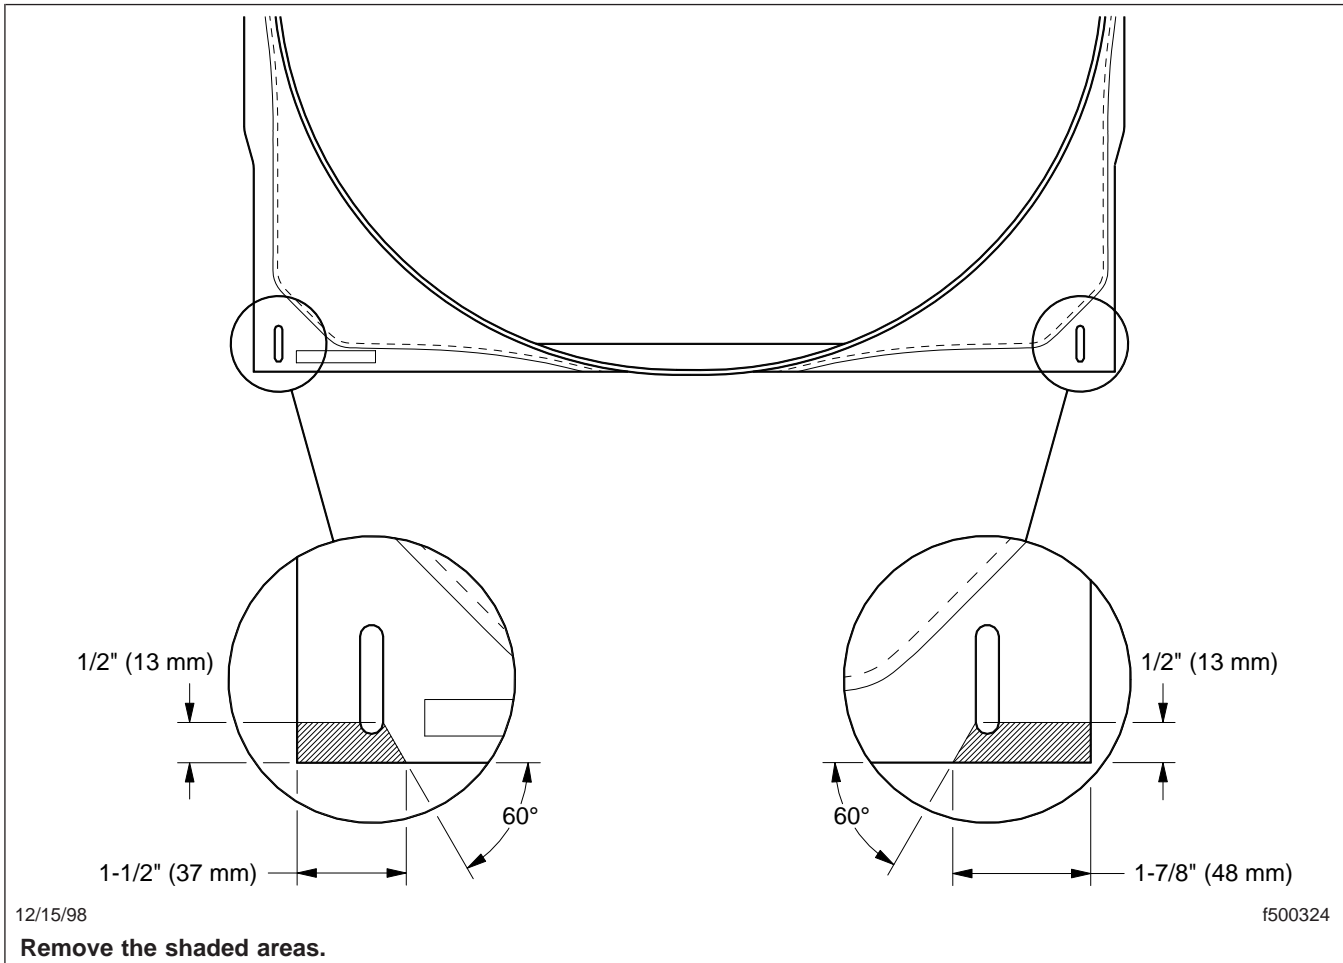

Fig. 1, Removing the Lower Corners of the Fan Shroud
- 6.2 Using either a cutting wheel or a die-grinder, remove the bottom corners of the fan shroud, as shown in Fig. 1.